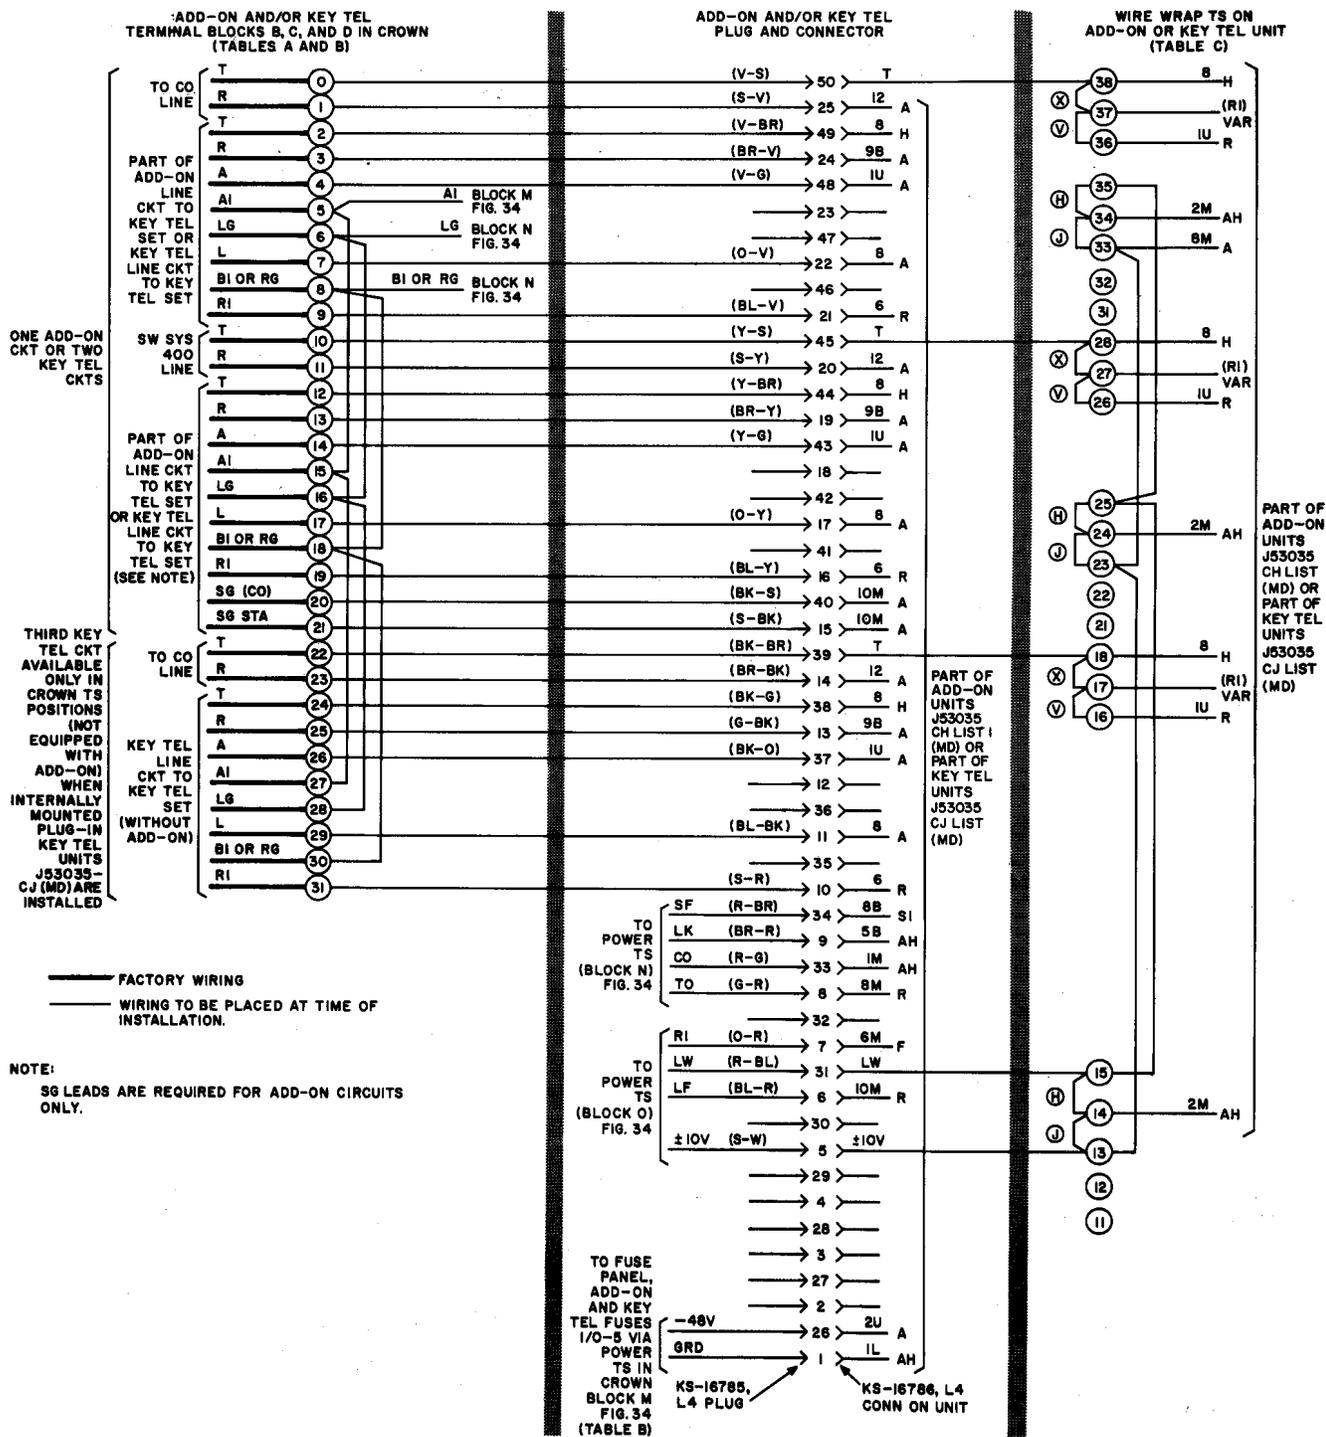

Fig. 11—Connections for Internal Add-On and Key Telephone Units
4.01 Internally mounted add-on line units J53035CH, List 1 (MD), are plug-in types. Lists 3, 4, 8, and 9 (MD) cabinet assemblies are factory equipped with two add-on units wired to positions 0 and 1 in the crown. (See Fig. 11 and Tables A, B, and C).
TABLE A (FOR FIG. 11)
TABLE B (FOR FIG. 11)
TABLE C (FOR FIG. 11)
- (1) Block **Z** and **W** relays nonoperated with blocking tools.
- (2) Do not provide **S** (**SG**) lead to station.
- (3) If each line circuit requires a separate ringer, connect **R1** and **B1** leads as required to proper clips of crown terminal strips B, C, or D for the respective key telephone unit involved (Fig. 11).
**5.03** Figure 11 shows the connections for internally mounted J53035CJ, List 1 (MD) plug-in key
**5.05** Internally mounted key telephone units are furnished with X and H options shop wired (Fig. 11).